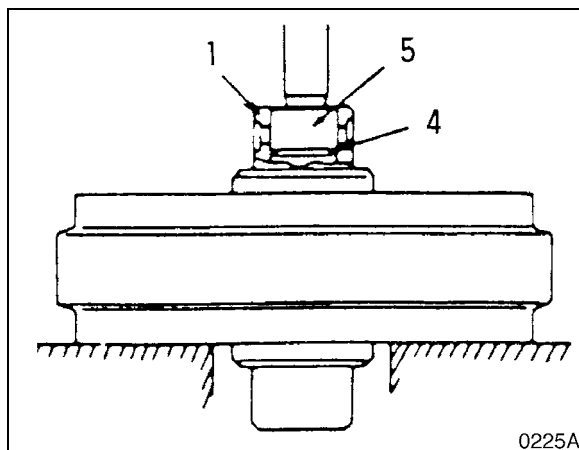

Figure 20
3. Use a press to remove the bearing from the axle. Separate the O-ring (4, Figure 20) from the axle and insert it into the bearing.